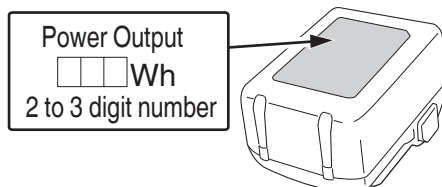

Fig. 2
- Lithium-ion batteries that exceed a power output of 100 Wh are considered to be in the freight classification of Dangerous Goods and will require special application procedures. (Fig. 2)